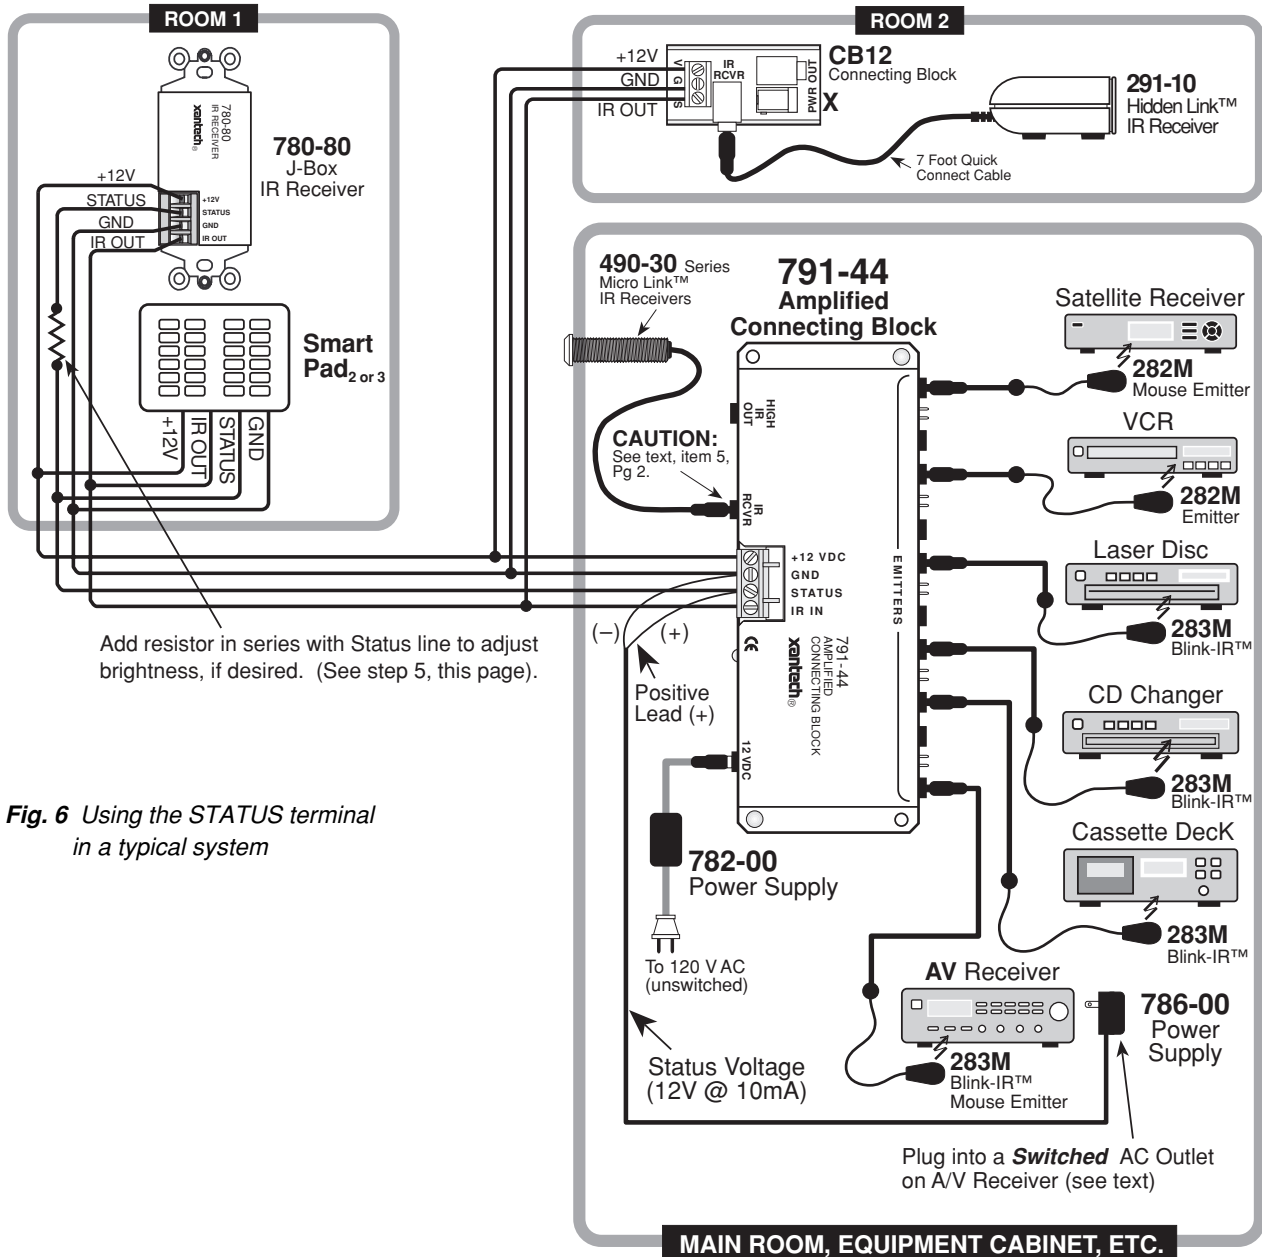

Fig. 6 Using the STATUS terminal in a typical system
Fig. 6 illustrates a single zone system where the Status indicator on a Xantech 780-80 IR Receiver and on a Smart Pad_{2 or 3} in a remote room, shows the ON/OFF status of an A/V receiver.
- Connect the 4-conductor inter-room cable between the 791-44, the Smart Pad_{2 or 3} and the 780-80 as shown in **Fig. 6**.
- If you wish to adjust the brightness of the Status LED on the 780-80, place a resistor in series with the STATUS lead as shown in **Fig. 6**. Use a value that achieves the desired brightness level (usually 1k Ohm to 10k Ohm, 1/8 watt).